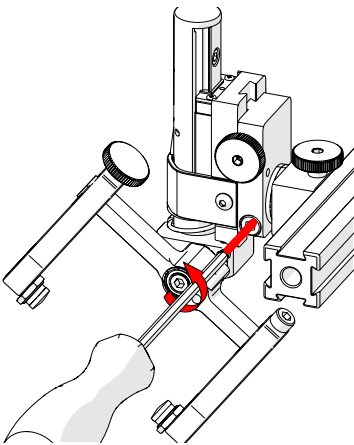

Fig. 118 - Loosen 3 mm screw
- Using the supplied 3 mm hex driver (Fig. 40), loosen the longitudinal adjustment screw (Fig. 118).